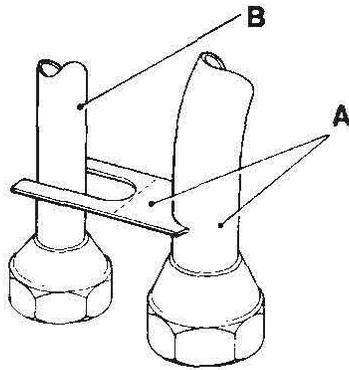
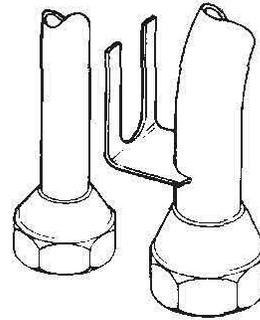

FIG. 1
FIG. 2
To prevent a possible foul condition occurring between the bracket and the high pressure hose Fig. 1 (B), which can cause vibration and a metallic rattling noise being detected within the car, this location bracket is now being deflected upwards 90° after hose assembly (See Fig. 2).